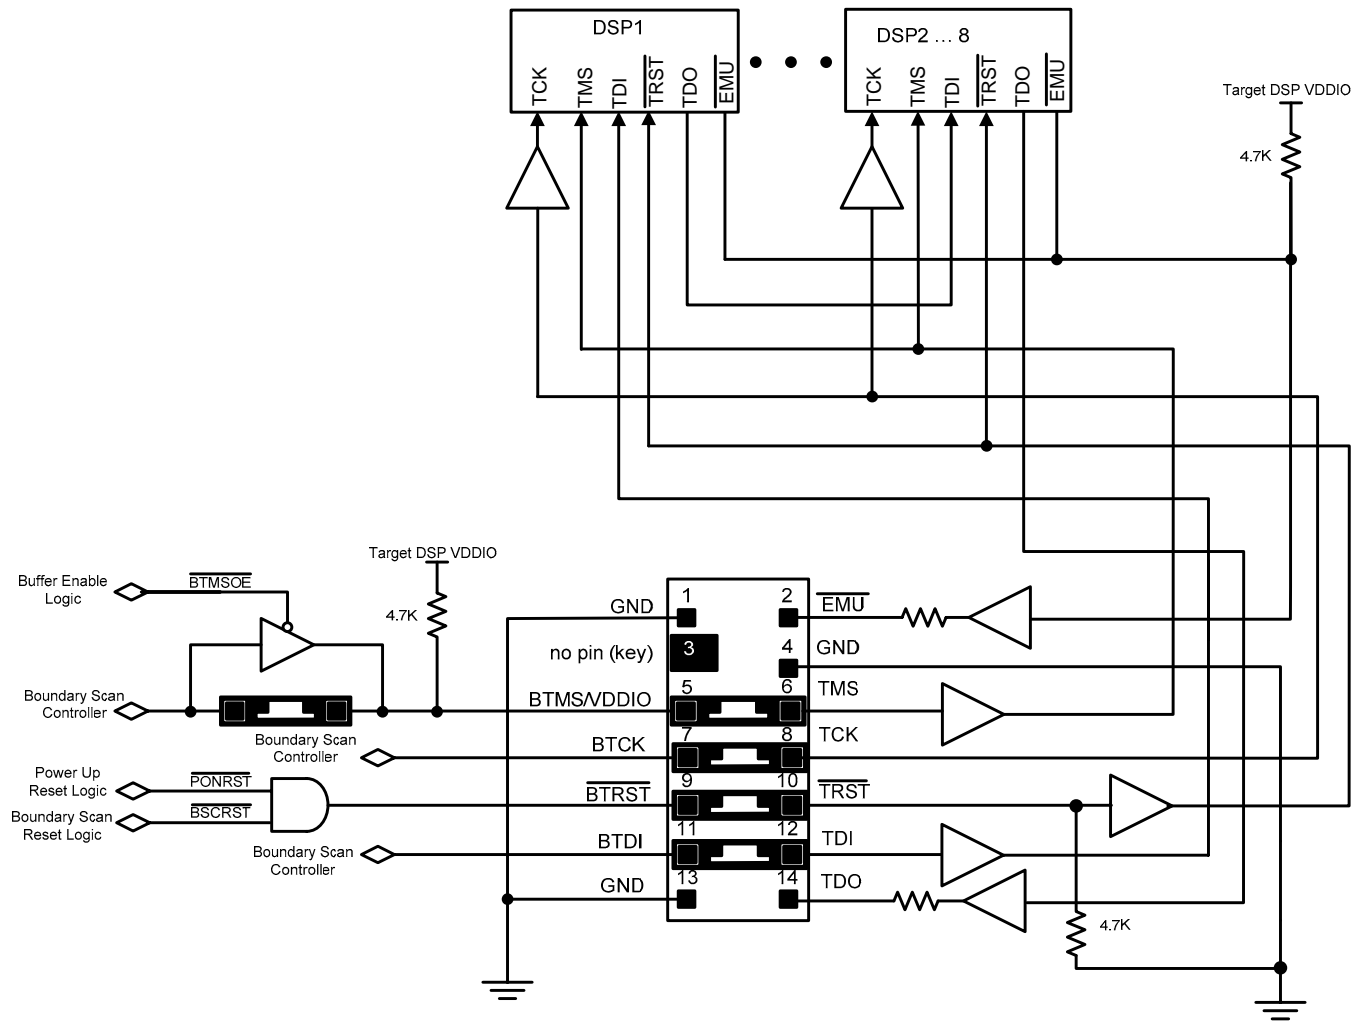

Figure 9. Multiple DSP target with a local boundary scan controller
Multiple DSP targets *with* local boundary scan controller logic should connect the local boundary scan signal pins to the JTAG emulator header pins shown in Figure 9.
If your target has an optional local boundary scan controller, and you attach a HPPCI JTAG emulator, you will need to isolate the BTMS signal from the BTMS/VDDIO voltage pin before starting the emulator software. Referring to Figure 9 during JTAG emulation, you can isolate pin 5 on the HPPCI JTAG emulator header from the local boundary scan controller logic using a jumper or three-state buffer.
DSP JTAG emulation signals. The local boundary scan signals include BTMS, BTCK, BTDI, and BTRST~. DSP JTAG emulation signals TMS, TCK, TDI, and TRST~ connect to local boundary scan signals using jumpers on the JTAG emulator header shown in Figure 9.
TRST~ must be pulsed low at power-up when using a local boundary scan controller, and should be kept low when the local boundary scan controller and the JTAG emulator are not being used. Figure 9 shows how TRST~ should be controlled when the target uses a local boundary scan controller.
The 4.7-K Ω pull-down resistor on TRST~ shown in Figure 9 should not be used for targets that have a local boundary scan controller and *do not* drive TRST~. The DSP JTAG TAP will be kept constantly in reset when using a pull-down resistor if it cannot be overdriven.
As shown in Figure 9, targets with more than one DSP in the scan path, which *do* use a local boundary scan controller, require buffering. Figure 9 shows the connections between the JTAG emulator header and buffers for a multiple DSP target *with* a local boundary scan controller.
**Figure 9** shows series terminating resistors for the TDO and EMU~ signals going to the JTAG emulator. These resistors are optional. Use terminators if the TDO or EMU~ routes between the buffers and the JTAG emulator header are longer than 6 inches.